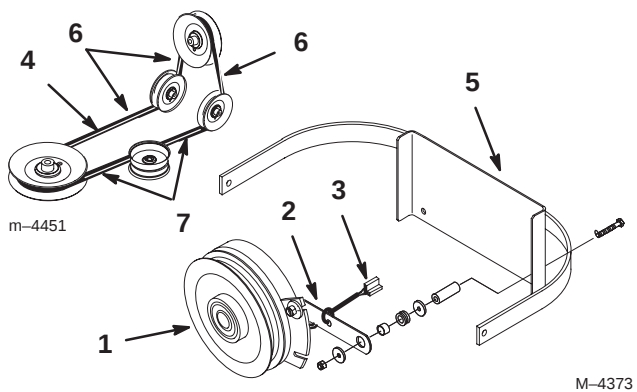

Figure 64
2. Remove the clutch retaining strap from machine frame and unplug clutch terminal from wire harness (Fig. 64).
3. Remove PTO drive belt from rear idler arm and front idler pulley assembly. Remove the PTO drive belt (Fig. 64).
4. Place new drive belt over clutch, around rear idler pulley, installed into rear idler arm assembly, installed into front idler pulley assembly and onto top center pulley (Fig. 64).
Important Check the amount of twist in belt between pulleys. Make sure it is only what is specified in figure 64.
5. Install clutch retaining strap and plug clutch terminal into main wire harness (Fig. 64).